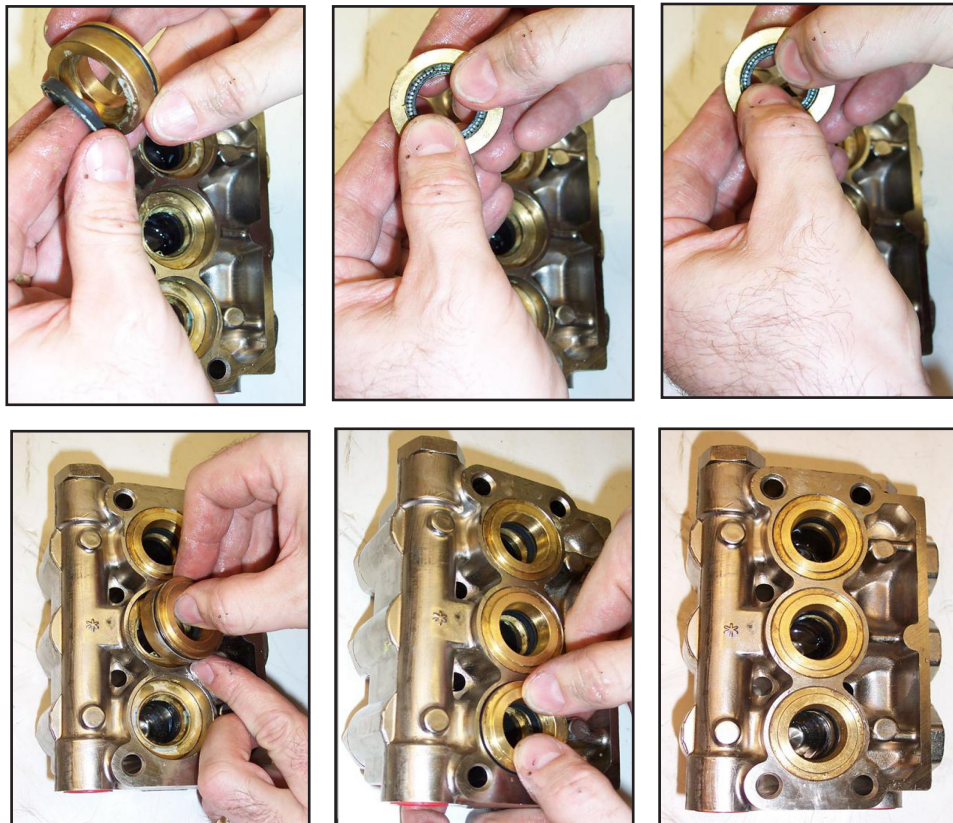

Figure 5-15. Press Low Pressure Seal Assembly into Cavity
3. Press the low pressure seal assembly into the cavity (see Figure 5-15).